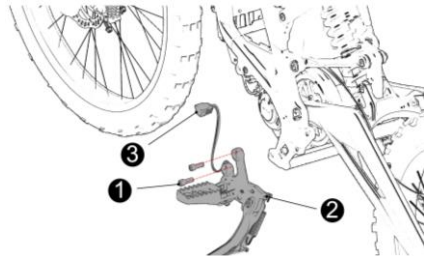

Fig 34
11.5 Dismount left pedal assembly (see Fig 34)